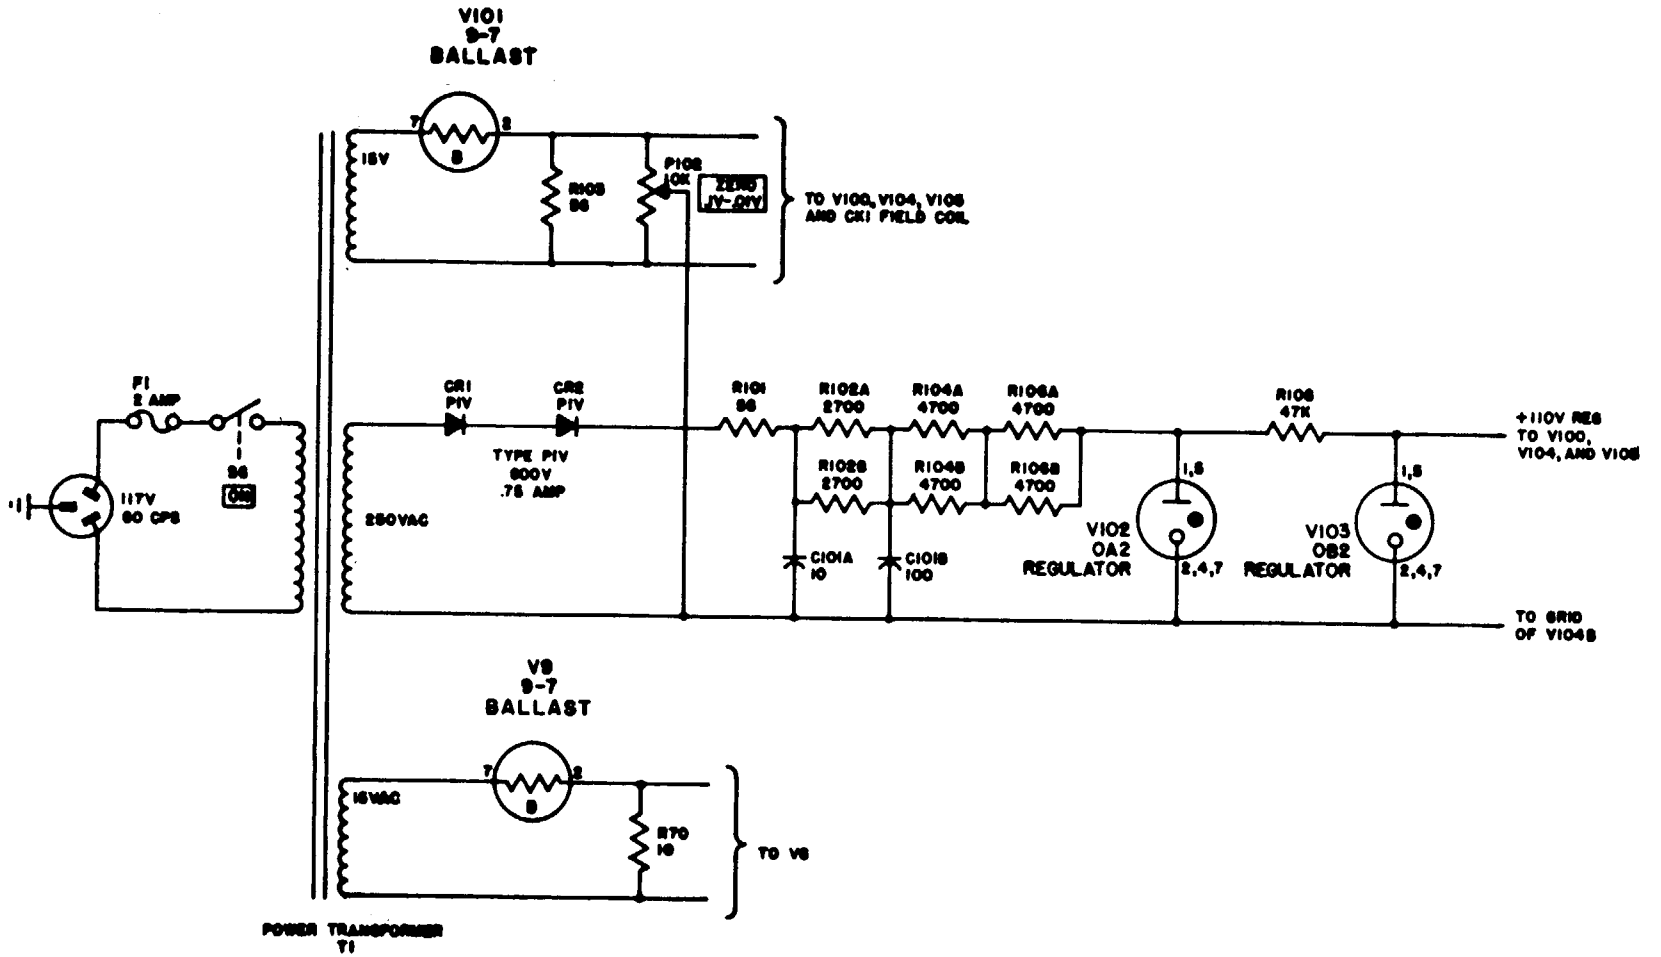

Figure 4-9. Low-voltage power supply, schematic diagram.
(figs. 4-9 and 9-5)
a. Input Power (fig. 4-9). The input power to the vtvmn is controlled by power switch S6. Power transformer T1 is protected by fuse F1 (2 ampere, 3AG).
b. Positive 110-Volt Supply (fig. 4-9). Positive 11.0 volts regulated for the balanced bridge and the 60-cycle chopper amplifier is obtained from a 250-volt ac secondary winding on power transformer T1. The ac voltage is half-wave rectified by rectifiers CR1 and CR2, and filtered by R101, C101A, C101B, R102A, and R102B. The de-output voltage is regulated by regulator tubes V102 and V103. Resistors R104A, R104B, R106A, and R106B are the regulating resistors for V102, and resistor R108 is the regulating resistor for V103. The negative side of the +110-volt regulated supply is connected to the positive side of the reference voltage (para 4-4).
c. Regulated Filament Supply (fig. 4-9). There are two regulated filament supplies. Each supply operates from a separate 15-volt, ac secondary winding on power transformer T1. The filament voltage for V6 is regulated by ballast tube V9. Resistor R70 provides an additional load to obtain optimum regulation by V9. The filament voltage to tubes V100, V104, and V105 and 60-cycle chopper CK1 field coil is regulated by ballast tube V101. Resistor R103 and potentiometer P102 provide an additional load to obtain optimum regulation on meter M1 when the NULL switch is set to .1 or .01. The .1V-.01V ZERO control P102 variable arm is connected to the minus side of the +110-volt regulated supply to place the filaments of V1000, V104, and V105 at